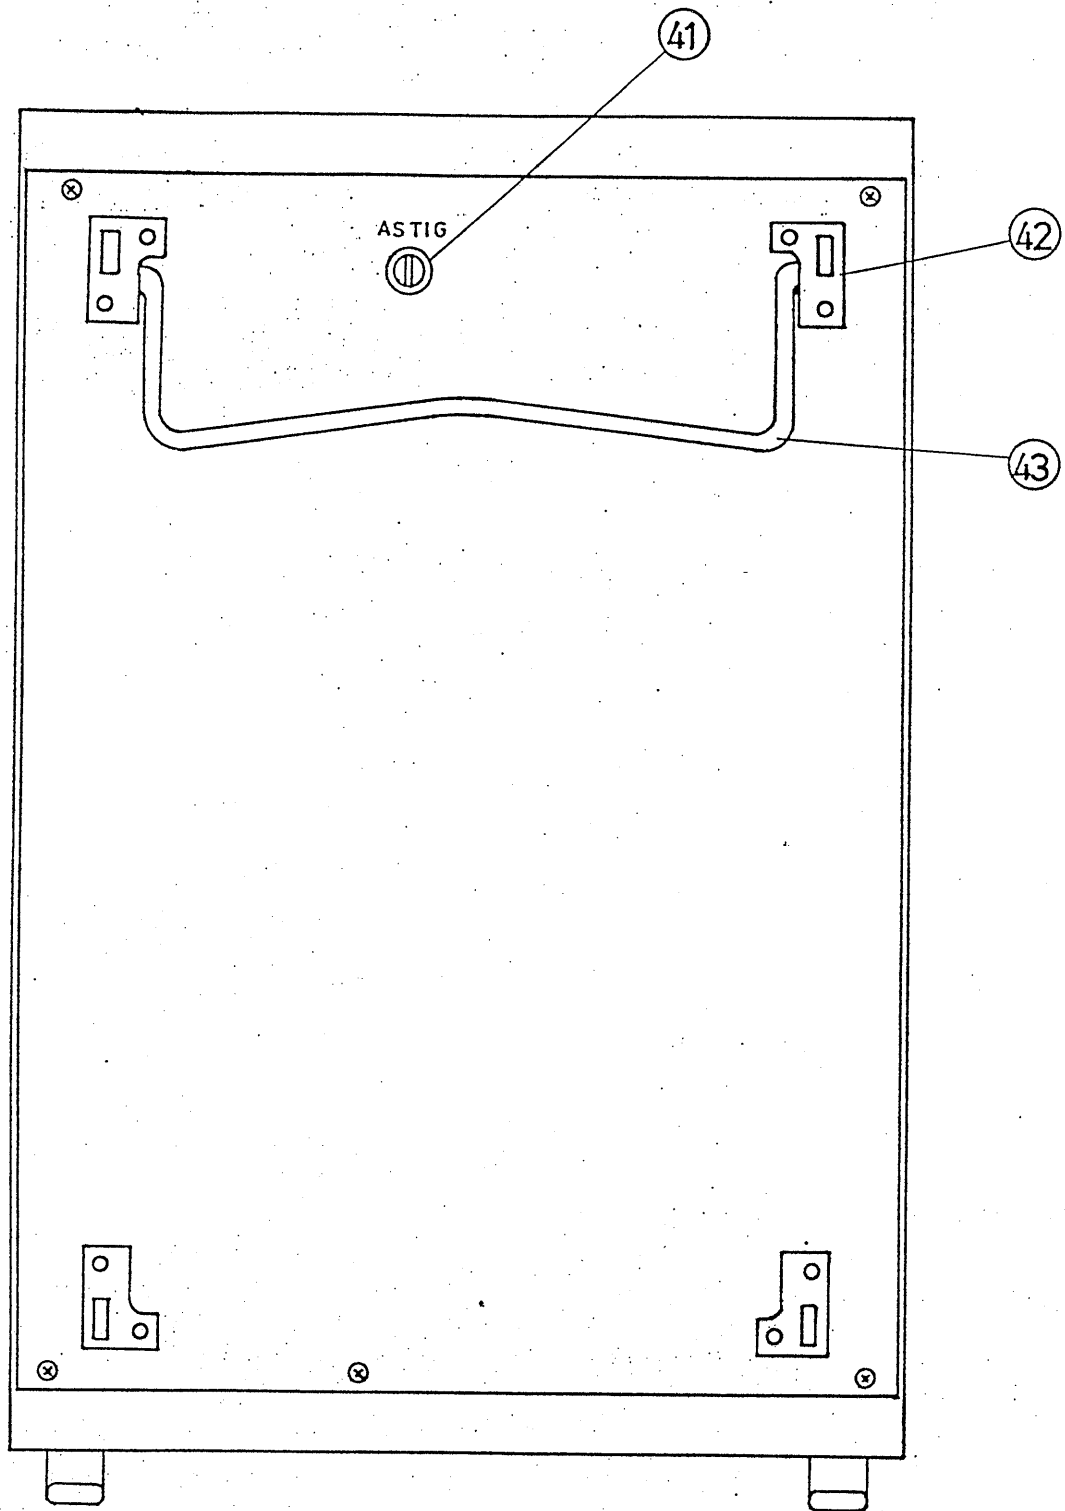

Fig. 3
③⑤	—	Power cord with plug.
③⑥	—	Cord winders combined with feet. They are used as feet, when the instrument is vertically stood.
③⑦	Z AXIS INPUT	Input terminals (Binding-posts) for external intensity modulation. This function is used for intensity modulation by external signal or a marker indication by intensity modulation. When no intensity modulation is made, ③⑦ and ③⑧ must be shorted with the short-bar.
③⑧	—	Terminal connected to the chassis (GND). Distance between ③⑧ and ③⑦ is 19mm for the convenience of using it with ③⑦.
③⑨	(Fuse)	Fuse holder. Fuse of 0.5A is used for line voltage of 100V ~ 117V and fuse of 0.3A is used for 220V ~ 240V. The fuse is taken up by turning the cap leftwards.
3.3 Explanation of bottom panel (Refer to Fig. 3)